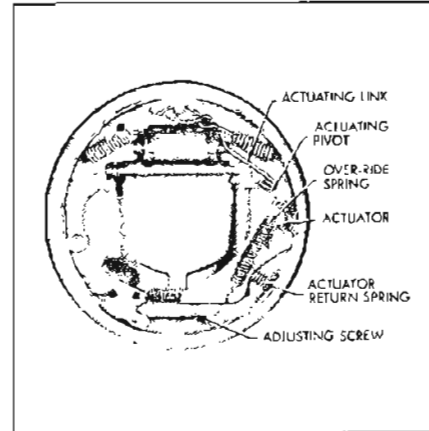

Figure 9-12--Rear Wheel Brake Assembly Left
**NOTE:** It may be necessary to back off the brake shoe adjustment before the brake drums can be removed. To back off shoe adjustment, rotate shoe adjusting screw upward. See Figure 9-12.
6. Separate the brake shoes by removing adjusting screw and lock spring. Remove parking brake lever from secondary brake shoe (rear only). See Figure 9-12.
4. Place brake shoes on backing plate, at the same time engaging shoes with wheel cylinder links. The primary shoe (short lining) goes forward. On rear brakes, connect cable to parking brake lever and install strut and spring between lever and primary shoe as shown in Figure 9-12.
5. Install actuator, actuator return spring and actuating link as shown in Figure 9-12.